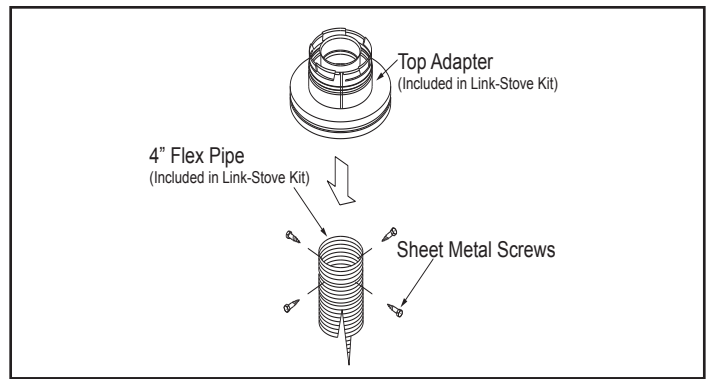

Figure 4.14
3. Connect the end of the flex pipe section to the underside of the top adaptor, using four sheet metal screws. See Figure 4.14.
5. Connect the flex liner to the top adapter using three sheet metal screws. See Figure 4.14.